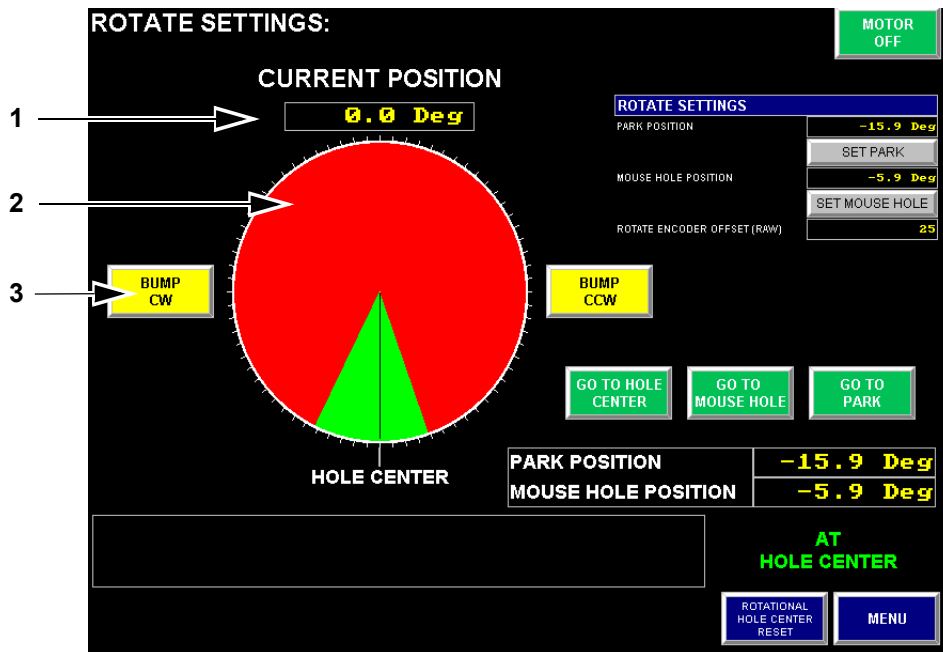

Figure 1: Rotate Settings Screen
The Rotate Settings screen (see Figure 1) allows the operator to verify or set up the rotational position settings for hole center, mouse hole, and park positions. The Rotate Settings screen can be accessed by pressing the **Menu** button from any screen and then selecting **Rotate Setup**.
2. On the Menu pop-up screen, touch the **Rotate Setup** button. The Rotate Settings screen appears (refer to Figure 1 on page 2).